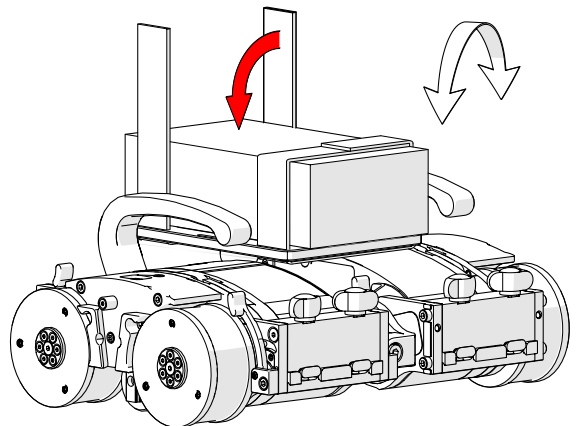

Fig. 269 - Use velcro straps
4. Pull the Velcro straps tight around the item on the backpack (Fig. 269).